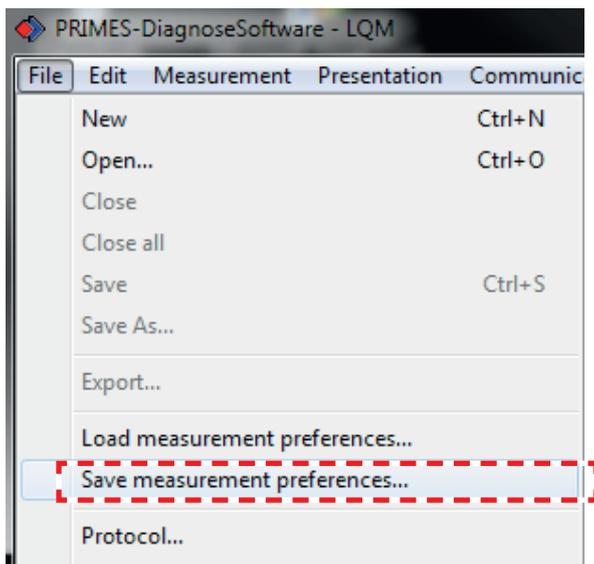

Fig. 19.17: Menu *File>>Save measurement preferences*
2. Select *File>>Save measurement preferences* (see Fig. 19.17)